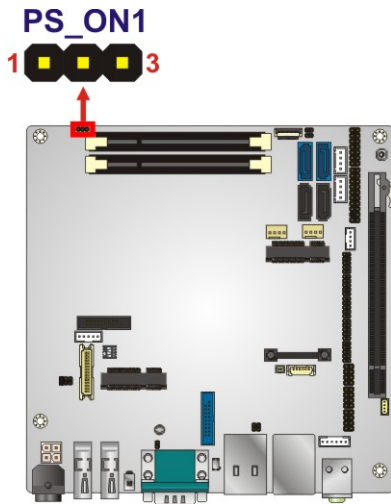

Figure 3-2: ATX Power Signal Connector Location
- CN Location:** See **Figure 3-2**